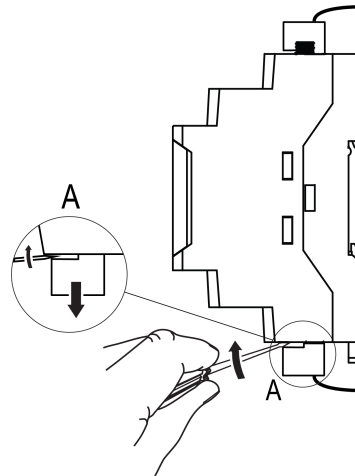

Fig. 6.2 Quick replacement
2. Using a screwdriver or a similar tool, unplug the terminal blocks with existing wiring connected (see Fig. 6.2).